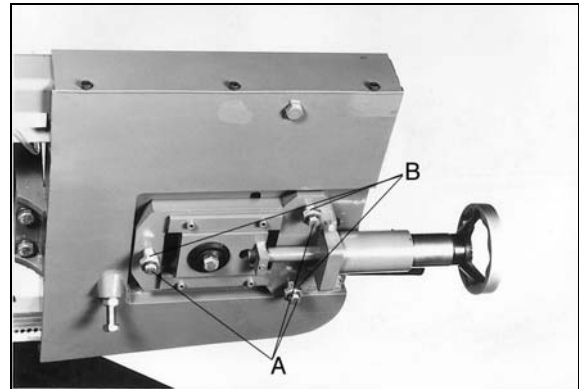

Fig. 5
4. Loosen the three bolts (A - Fig.5) located on the top of the tracking nuts.
5. Tracking adjustment is accomplished by either loosening or tightening three adjusting nuts (B - Fig.5).
7. Tighten locking bolts (A) once properly tracking is completed.